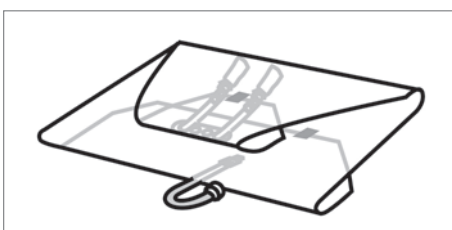

Fig. 10
7. Unfold the bag and remove any adhesive tape or protective foam from the Flexsafe® 3D Bag (see Fig. 10).